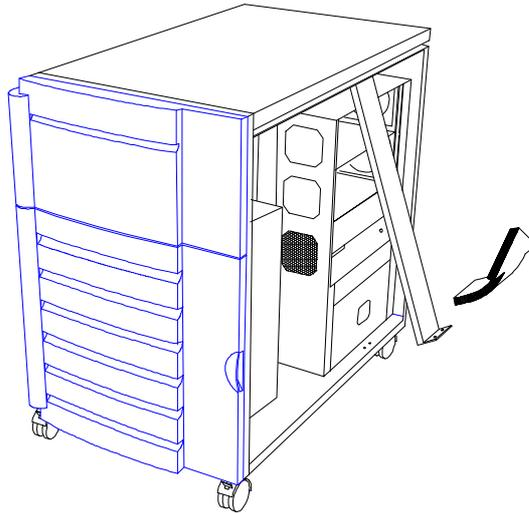

Figure 3-45 Pulling-out the Metal Bar
3. Pull-out the metal bar from the lower end and unhook the upper end from the housing roof. See Figure 3-45.